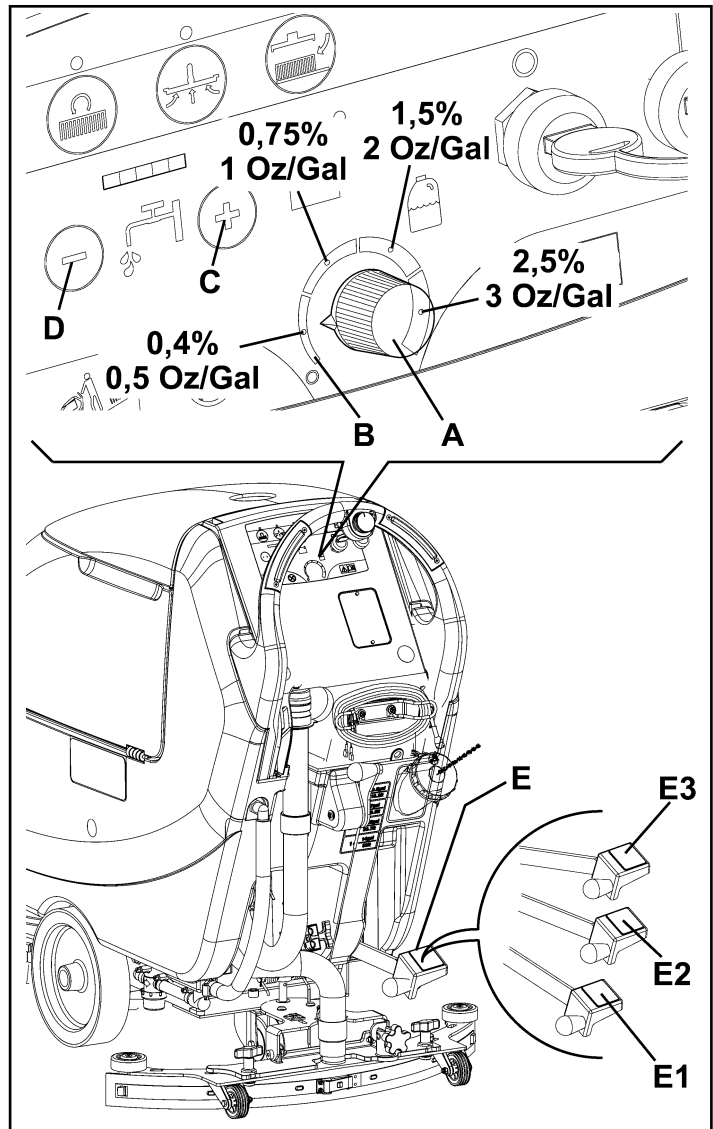

Figure 20
1. Turn the knob (A, Fig. 20) clockwise or counter-clockwise to increase or decrease the detergent concentration.
2. The average detergent concentration values, matching the 4 colored areas of the scale (B), are shown in the figure.
3. To set the detergent quantity to zero, fully turn the knob (A) counter-clockwise.